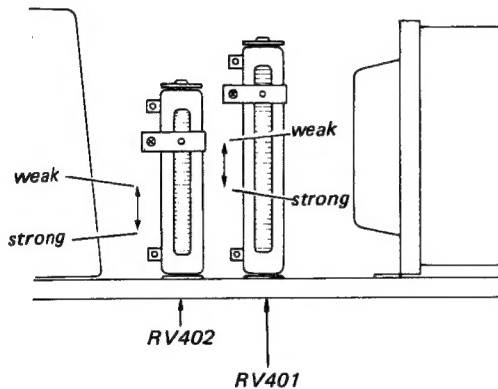

Fig. 5-1-6. Reel motor torque adjustment
3. Place the unit in the play mode. Pull the spring scale and then allow to take up the string on the reel while approaching the scale to the reel at the same speed of tape running. Adjust RV401 for 330 to 350 g-cm (4.58 to 4.86 oz. inch) on the spring scale. See Fig. 5-1-6.
3. Place the unit in the play mode. Pull the spring scale at the same speed of tape running. Adjust RV402 for 240 to 260 g-cm (3.32 to 3.60 oz. inch) on the spring scale. See Fig. 5-1-6.